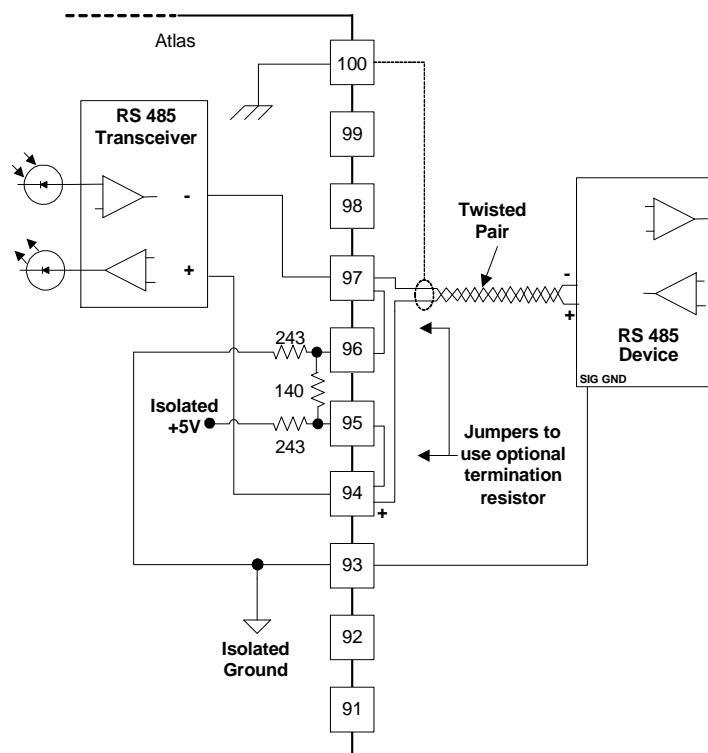

Figure 4-21. Serial #2–RS-485 Pinouts
- **RS-232.** Refer to Figure 4-21 for RS-232 wiring. The transmit data (TXD), receive data (RXD), and signal ground (SIG GND) must be properly connected as shown. In addition the shield (SHLD) should be connected in at least one location.